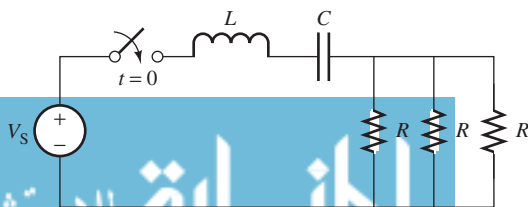

FIGURE P5.39 Circuit for Problem 5.39.
5.39 (H) Write the function of the total current flow in the circuit shown in Figure P5.39 in terms of L , C , R , and V_S .